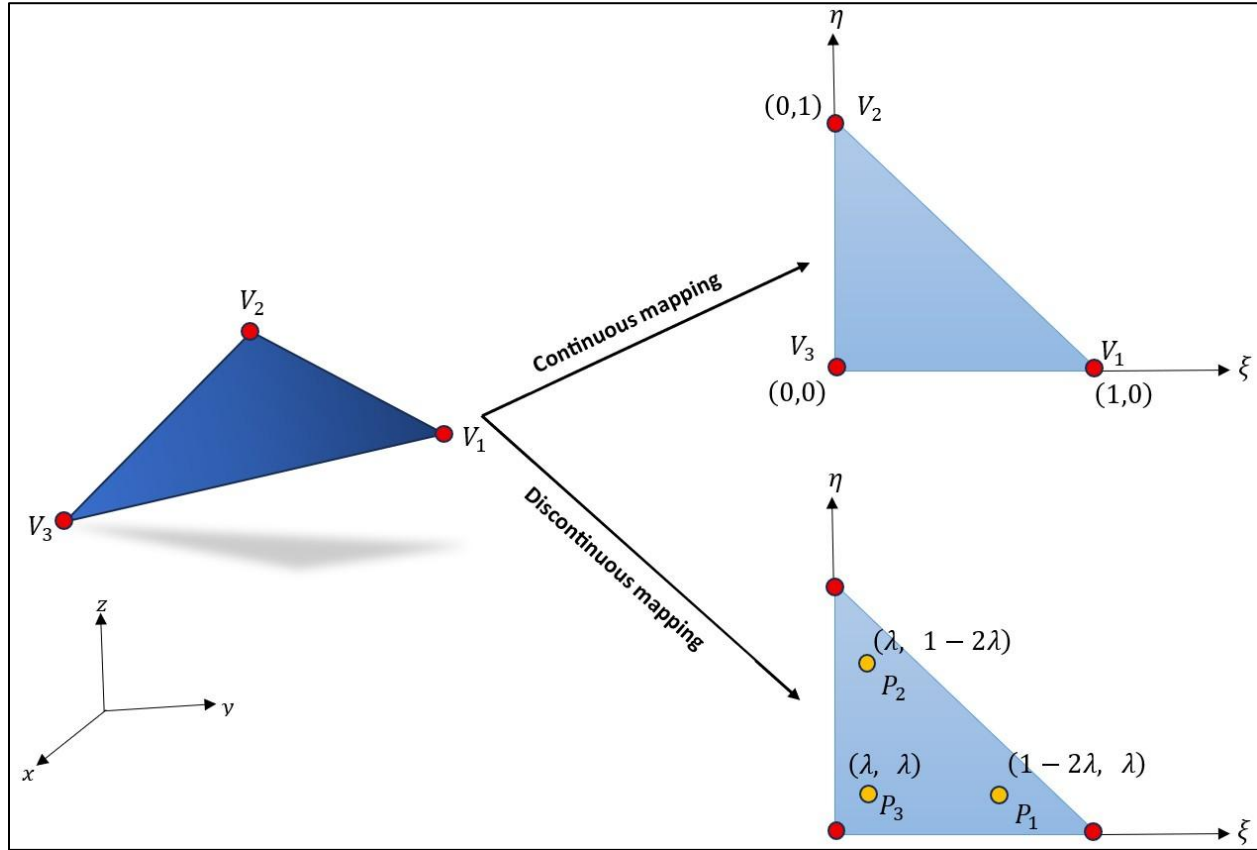

Figure 26: Boundary Element Types
GABES uses two types of linear elements: continuous and discontinuous elements. Both element types have three (03) degrees of freedom (DOF) nodes, differing only in their location, as illustrated in Figure 26.